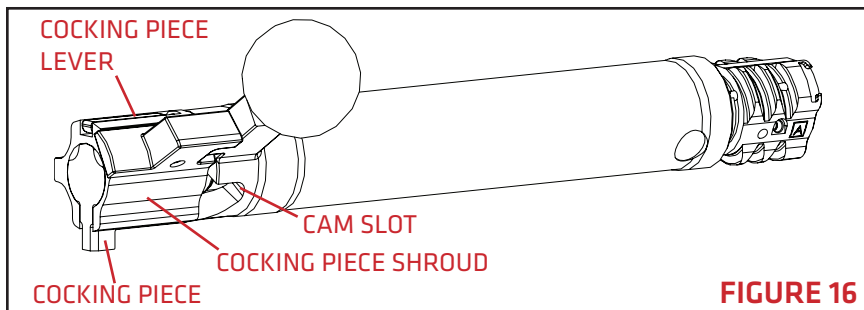

FIGURE 16
1. With the bolt removed from the rifle, ensure that the cocking piece shroud is rotated to the cocked position (**FIGURE 16**).